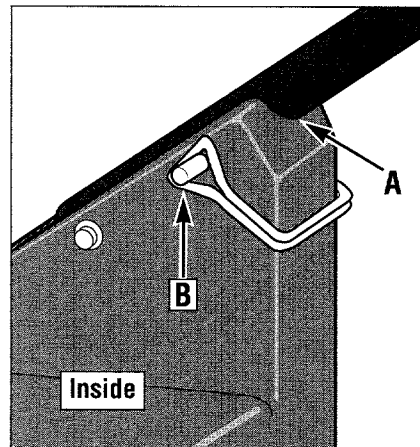
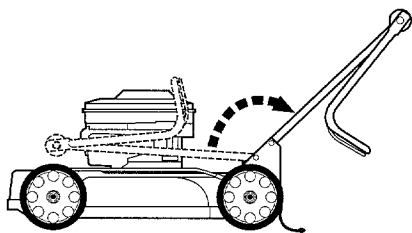

Figure 2-1: Handlebar channel and locking pins.
Figure 2-2: Unfold lower handlebar assembly.
A. Remove the locking square bail pin (B, Figure 2-1) from the left and right-side handlebar mounting brackets by unhooking the wire bail from the inside end of each pin. Set the bail pins aside.
B. As shown in Figure 2-2 on Page 8, swing the handlebar assembly (do not unfold upper section) to the rear of the mower until the handlebars rest in the handlebar mounting bracket channels (A, Figure 2-1).
C. Secure the handlebars with the locking square bail pins (B, Figure 2-1). Rotate each pin so that the square bail is toward the rear of the mower. Lock the wire bail over the end of the pin as shown.